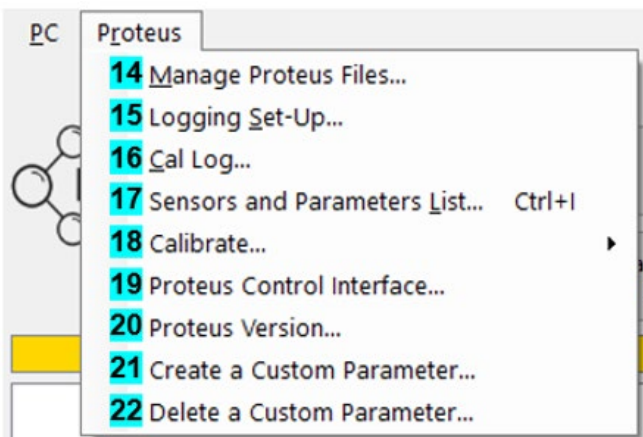

Figure 13: Overview of Proteus Menu on Proteus Manager.
2. On the Proteus Manager, open the Proteus Menu (Figure 13) and select 'Proteus Control Interface'.